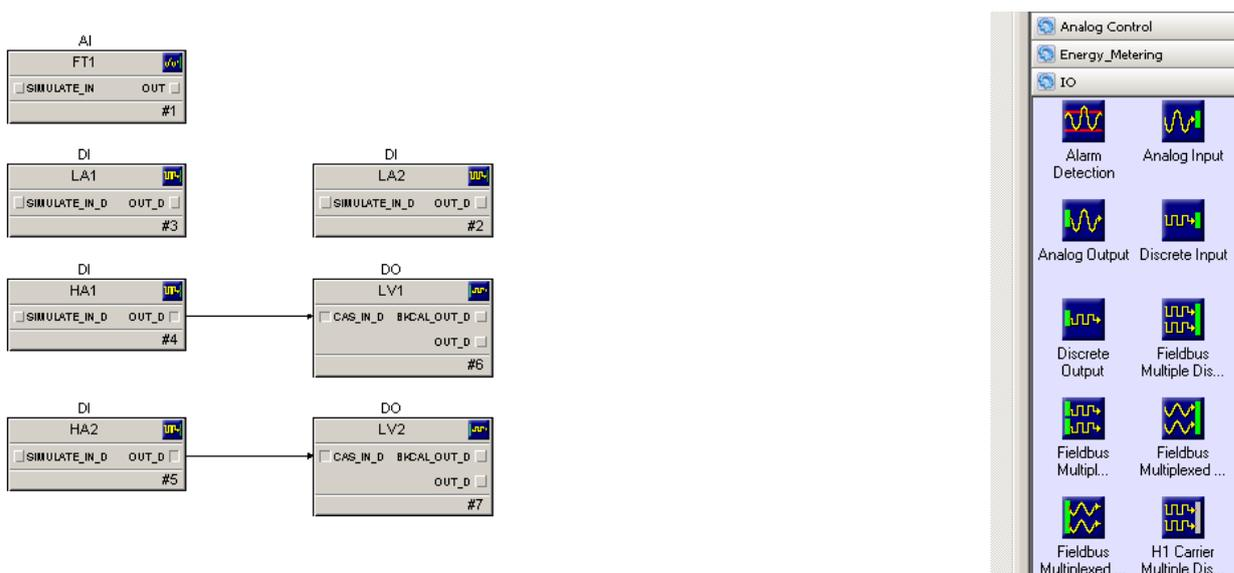

Figure 2.13 Analog- and Digital signal blocks for the physical model.
All the blocks we need are found under the I/O tab. Drag and drop four Discrete Input (DI) blocks, two Discrete Output (DO) blocks and one Analog Input (AI) block, see Figure 2.13. The DI/DO blocks are w.r.t. the valves and alarms for the model, and the AI block is w.r.t. the flow transmitter.
We also want to create interlocks for the system to make sure that e.g. a high critical limit level is respected. Therefore, connect, as seen in Figure 2.13. HA1 output to the LV1 input and HA2 output to the LV2 input. This connection makes sure that whenever a high limit level is reached for tank 1 or tank 2, then the valves for the respective tanks will open.